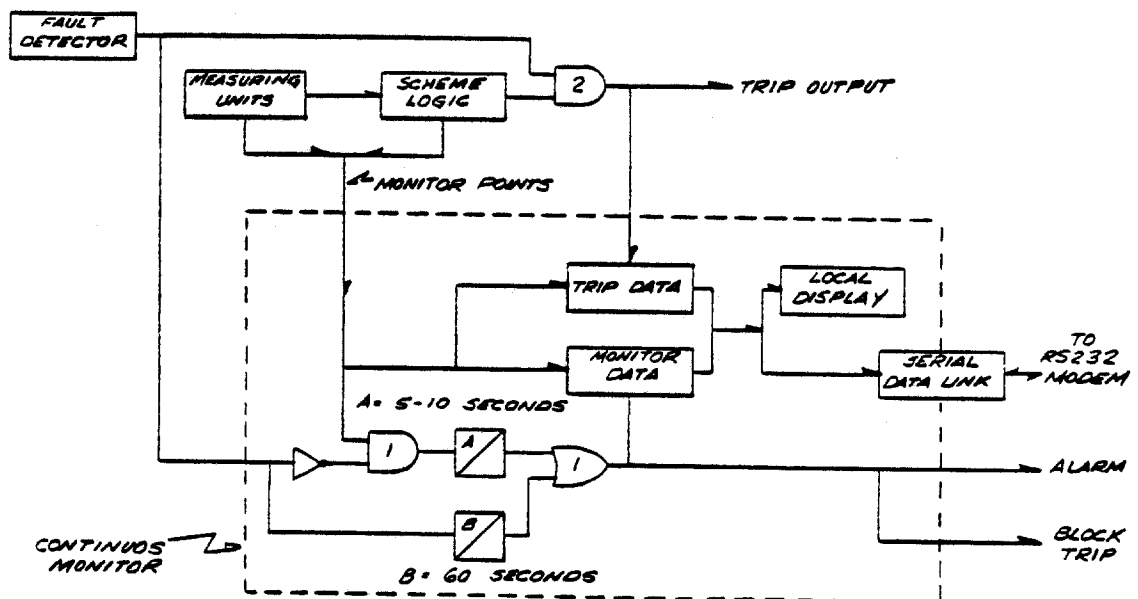

Figure CM-1 (0285A9897) Simplified Functional Diagram Depicting Continuous Monitor Operation
A microprocessor, software stored in an EPROM, and other required support chips are the hardware/software that comprise the Continuous Monitor Module. The module operation can be described functionally with the aid of Figure CM-1. If one or more of the monitored points changes state (either logic level 0 to 1 or logic level 1 to 0), the fault detector has not operated, and this condition persists for a minimum of 5 seconds, then the Continuous Monitor Module issues an alarm output to indicate that an abnormal condition - a relay system failure - has occurred. Based on the actual software and hardware implementation, the "A" time delay in Figure CM-1 is not a fixed value, but rather a statistically variable 5 seconds minimum and 10 seconds maximum. An
Once OR1 in Figure CM-1 produces an output, indicating a relay system failure, the microprocessor/program stores bit patterns in non-volatile memory that identify which monitored point(s) changed state. These "faulty" monitored points are not stored in chronological order, nor time-tagged, but are simply accumulated in memory. Repeated operation and reset of a particular monitored point does not result in this point being stored more than once. This accumulation of "faulty" monitored points continues until the memory is cleared. Since non-volatile memory is used, the data is not lost if the DC power supply is turned off or the DC is removed externally. To clear the memory, a "clear" command must be given by either (1) the operator pushing a button on the front panel of the module or (2) a remote terminal communicating with the module via a serial data link. When the first relay system failure is detected, the Continuous Monitor Module closes an alarm contact that remains closed until the memory is cleared.